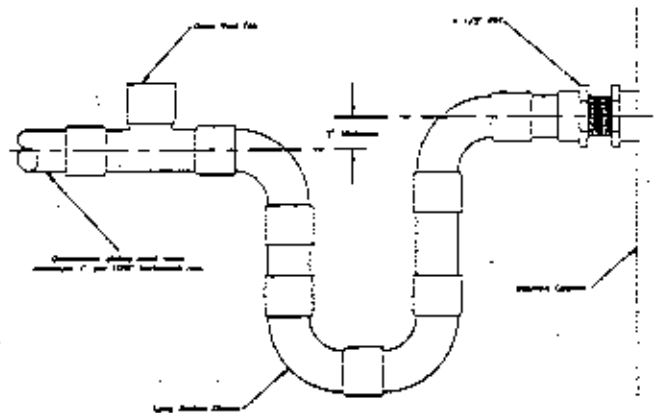

Figure 3
3. Install a condensate trap in the drain line following approved practices as shown in Figure 3 below. Design the length of the trap based upon the amount of external static pressure anticipated. As a rule, 1" of trap is required for each inch of negative pressure on the unit.